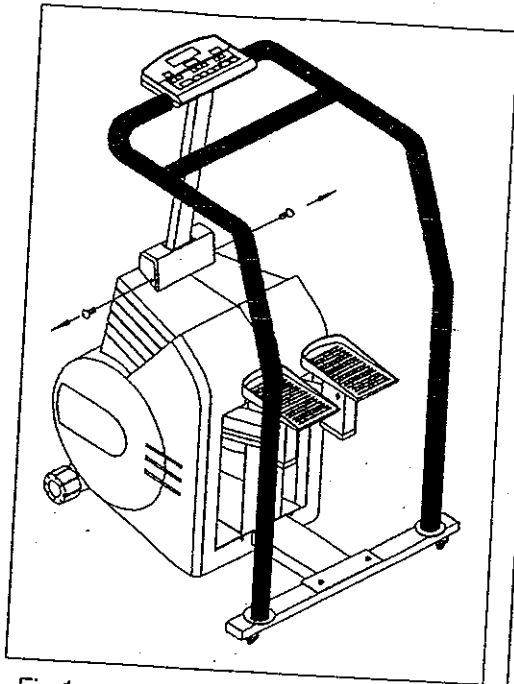

Fig. 1
1. Remove the two screws securing the post shroud (see Fig. 1 & 2).